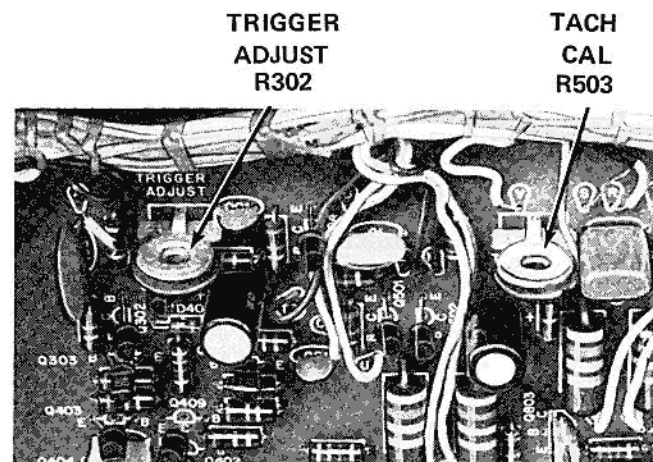

Figure 3
The TAC CAL (tachometer calibrate) control R503 is mounted on the circuit board as shown in Figure 3. This control must be adjusted with a nonmetallic tool, such as the plastic alignment tool supplied with the kit, to prevent shorting the control to one of the transistors.
- () Refer to Figure 3 and, using the insulated tool, preset the TAC CAL control (R503) fully counterclockwise.